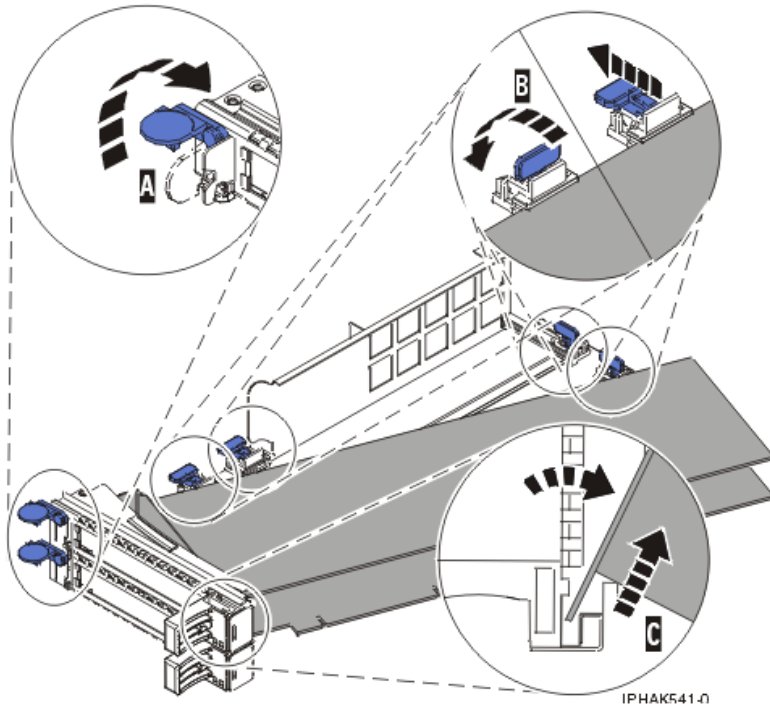

Figure 71. Adapter removed from the PCI adapter cassette
- a. Unlock the adapter retainers by rotating the retainer clip A into the horizontal position. See Figure 71 on page 78.